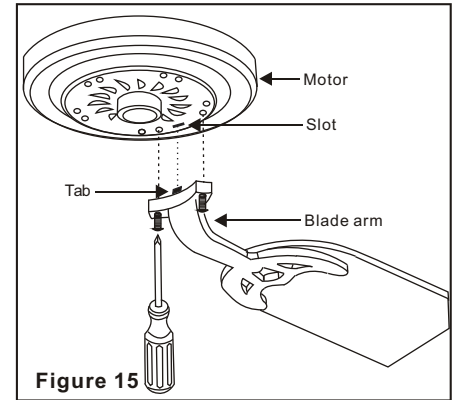

Figure 15
Step 3 Fasten the blade arms to the motor by inserting the tab from the blade arms to the slot in the bottom motor housing, then tighten the two screws and washers already installed in the blade arms. (Figure 15)